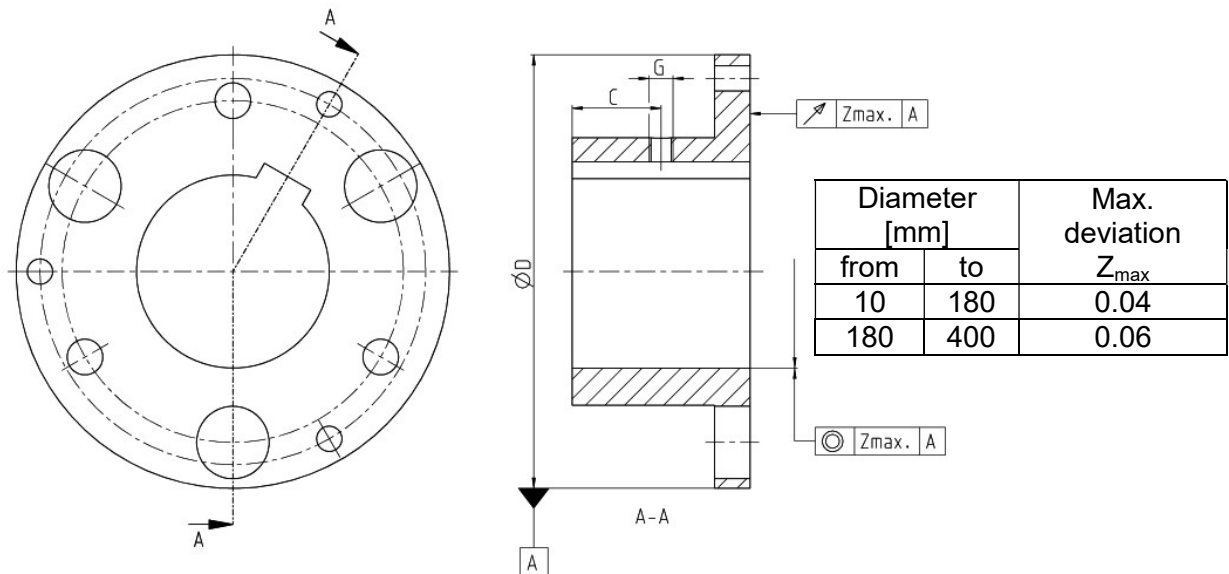

Figure 7.3: Specifications for the form and positional tolerance of the bore
- the form and positional tolerances in accordance with DIN ISO 286 are adhered to (see figure 7.3).
If the hub is to be designed with a keyway, it is preferably to be introduced between the bores as shown in figure 7.3. In this version, a tapped hole is recommended for the axial securing of the hubs. Measure C should correspond to half the hub length where possible. The dimensions of the tapped hole G and the tightening torques of the locking screw can be found in table 7.5.